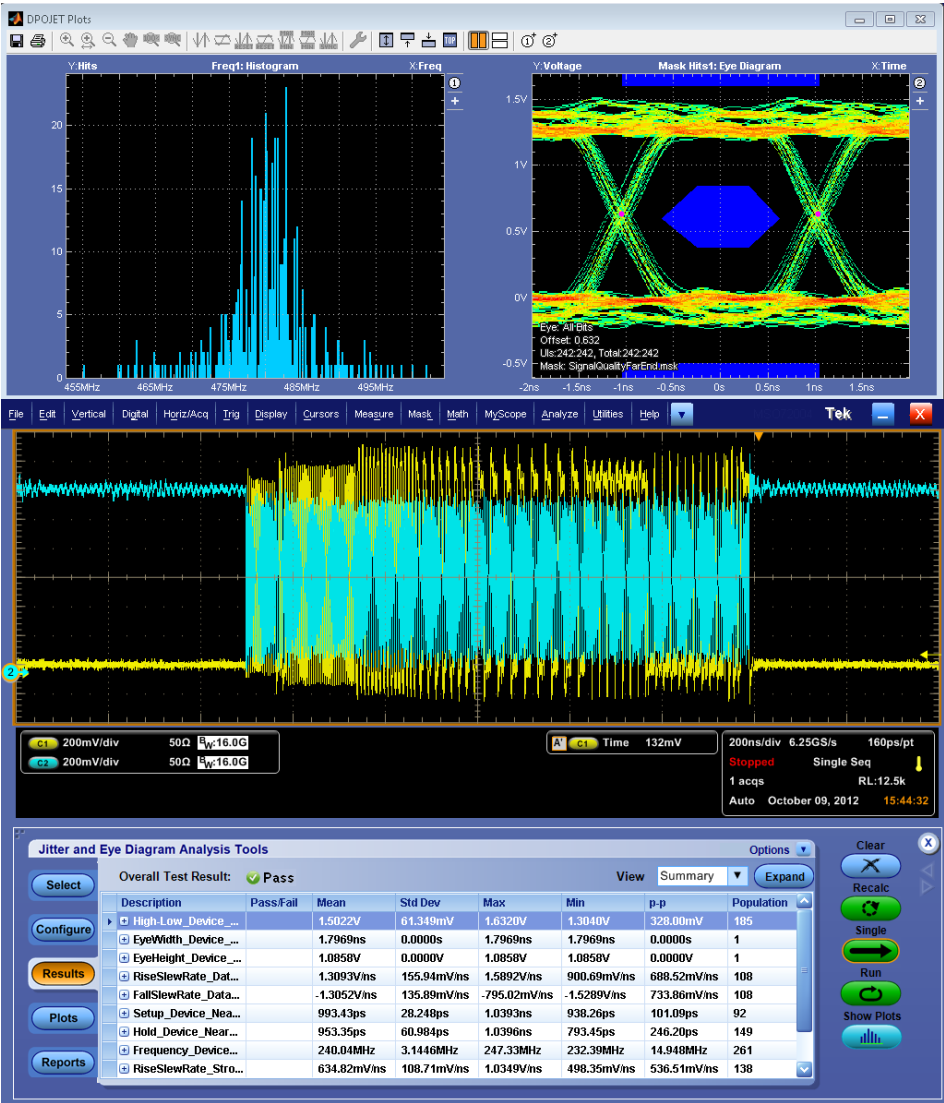

Figure 5 Device Signal Quality Measurement Result
- 6. DPOJET automatically selects the limit file based on the test point. The Pass/Fail status is shown in the DPOJET Results tab. Refer to Figure 5. The limits are shown in Table 4 below.